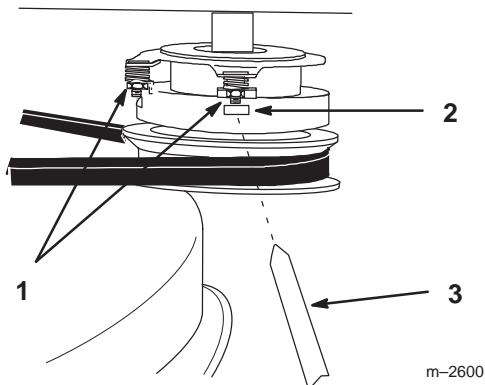

Figure 39
1. To adjust clutch, tighten or loosen lock nuts on flange studs (Fig. 39).
2. Check adjustment by inserting feeler gauge thru slots next to studs (Fig. 39).